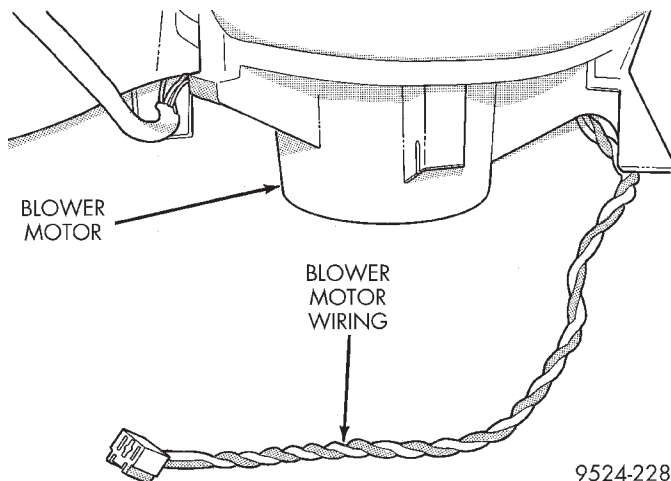
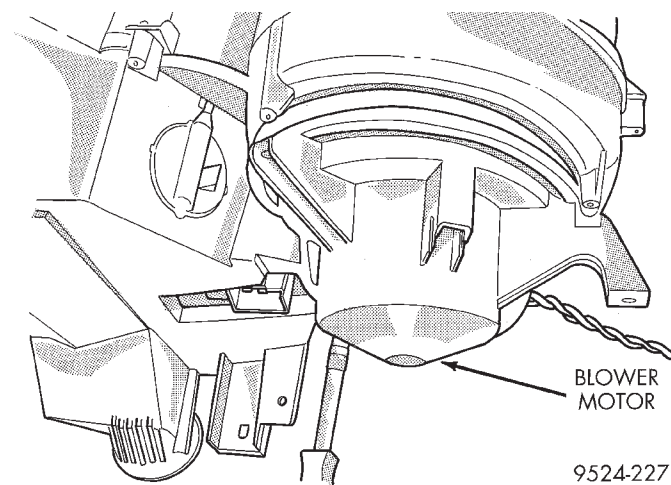

**Fig. 13 Blower Motor Wiring**
**Fig. 14 Blower Motor**
- (1) Disconnect battery.
- (2) Remove lower right under panel silencer duct.
- (3) Remove blower motor connector from resistor block (Fig. 13).
- (4) Remove blower motor case retaining screws.
- (5) Lower blower motor case from housing (Fig. 14).
- (6) Remove fan scroll from motor shaft.
- (7) Remove motor from motor case.